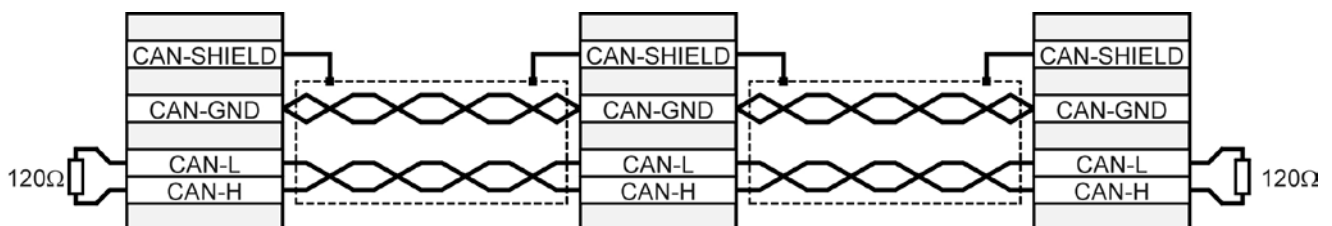

Figure 30: Cabling example for CAN-Bus
- ❖ The individual nodes of a network are always connected in line, so that the CAN cable is looped through from controller to controller (see Figure 30).